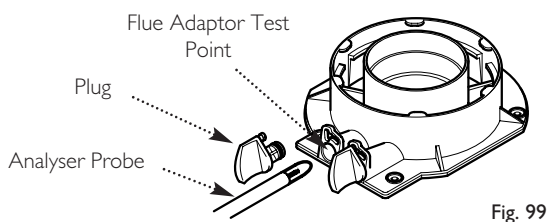

Fig. 99
7. Remove the plug from the flue adaptor test point. Insert the analyser probe and allow time for the reading to settle (Fig. 99).